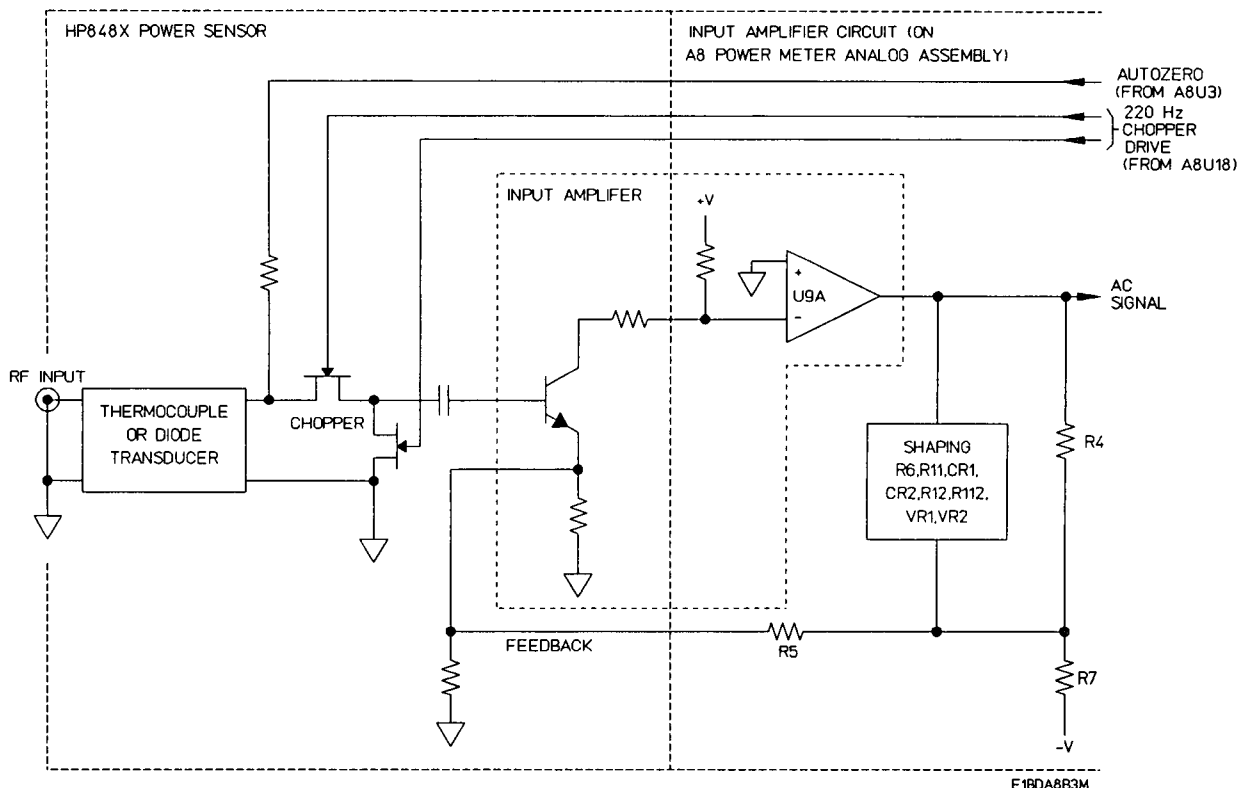

Figure 8-26. Simplified Power Sensor and Input Amplifier Circuit
**Input Amplifier.** Amplification of the chopped sensor signal is accomplished partly in the Power Sensor itself and partly in the Power Meter's Input Amplifier. A simplified block diagram of the interconnection between the Power Sensor and the Input Amplifier is shown in *Figure 8-26*. The overall amplifier circuit has a voltage gain of 600. Voltage gain is determined by a circuit consisting of R4, R5, and R7 in the Input Amplifier and two resistors in the Power Sensor.